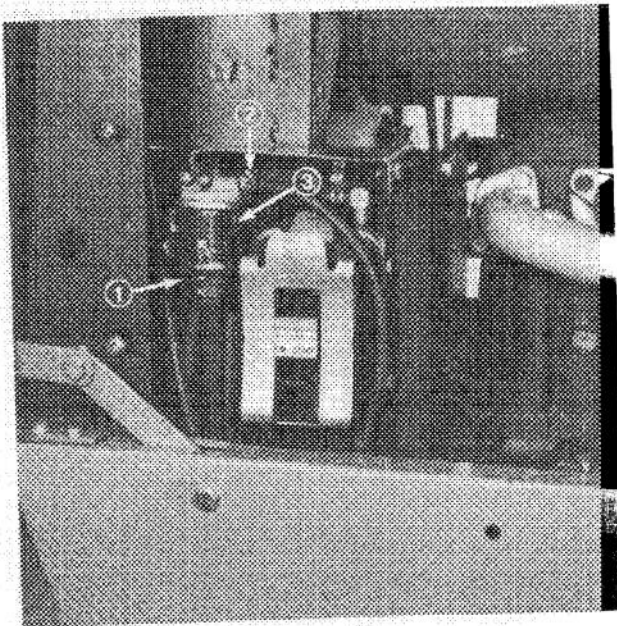

Figure 61
1. Loosen clamps and remove lines from assembly (Fig. 61).
2. Remove filter assembly from mounting clamp (Fig. 61).